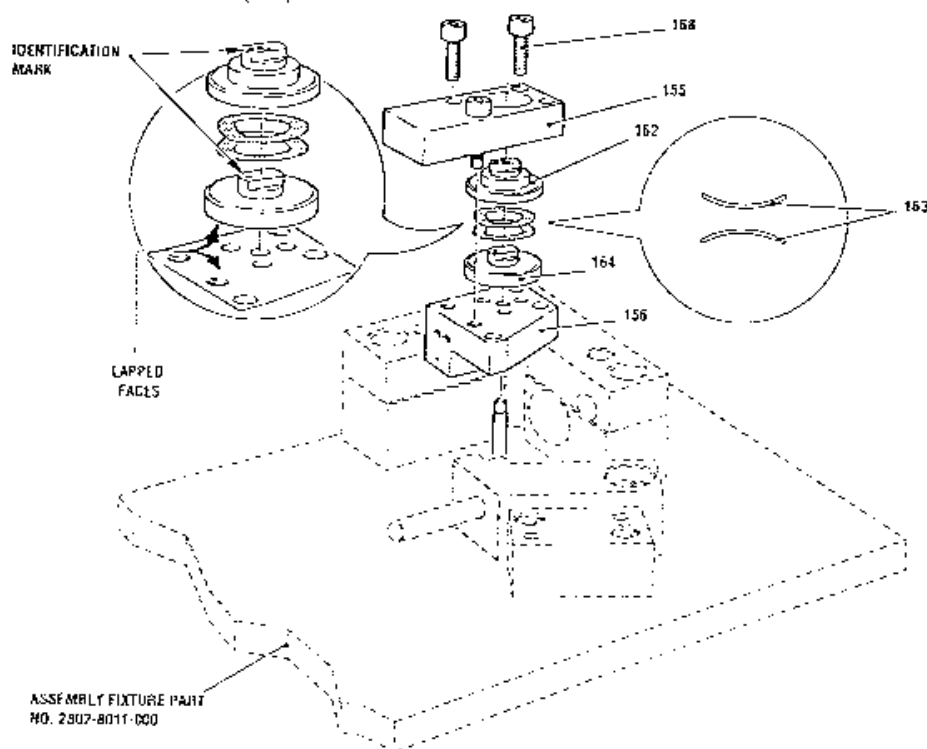

Fig 3.21 Valve Block Assembly Fixture
3.8.2 Keyed Filler Assembly (Figs. 3.21, 3.22 And 3.23)
2. Fit the valve block (156) into the key filler assembly fixture Part No. 2802-8011-000 followed by valve (164) ensuring that the identification mark is to the left hand side as illustrated in Fig. 3.21.
3. Fit the two new disc springs (163) over the valve (164) stem ensuring that the first spring is positioned with its concave face down and that the second spring is back.
6. Fit a new bridge gasket (154) into the groove in the lower block (155) and press the spigot into the valve block (156). Fit a new gasket over the top of the valve block (156) and press the spigot into the upper block (157).